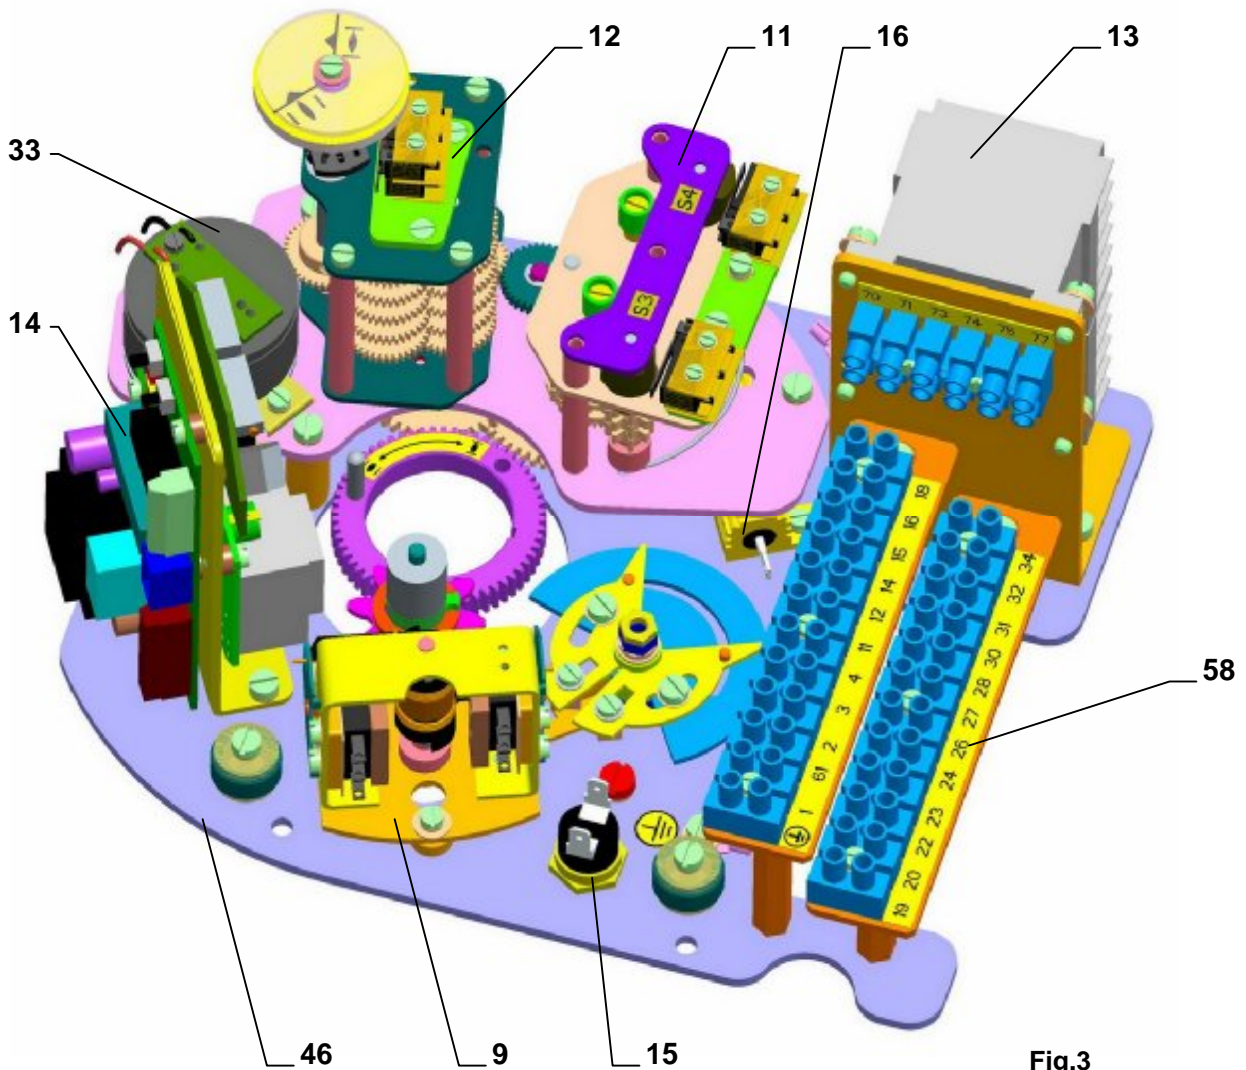

Fig.3
(1) Fig.3,3a which contains:
- position unit (2) (Fig.3,3a,3c)
- signalling unit with gear unit (12)
- torque unit (4) (Fig.3,3a,3c) with torque disk (5) (obr.3,3a,3c)
- transmitter unit (33) (according to EA specification)
- heating resistor (16) with thermal switch (15)
- controller (only for EA **MO** with controller) (14)
- reversing contactors (13) (according to EA specification)